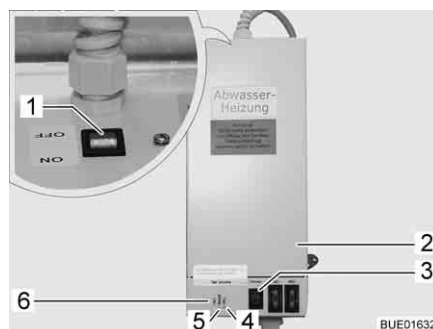

Fig. 151 Transformer with control unit
The 230 V AC/12 V DC transformer (Fig. 151,2) is installed in the wardrobe or in the storage area beneath the seating group, depending on the model.
- Indicator lamp (Fig. 151,5) lights up in green: Regulation in operation
- Indicator lamps (Fig. 151,4 and 6) light up in red: Waste water pipes are warmed
A test button (Fig. 151,3) is integrated in the housing with which the control unit can be operated for a short time. By pressing the test button, the function of the warming unit can be tested, even if the ambient temperature is above 5 °C.
- Turn switch (Fig. 151,1) on the transformer (Fig. 151,2) to "ON".
- Turn switch (Fig. 151,1) on the transformer (Fig. 151,2) to "OFF".